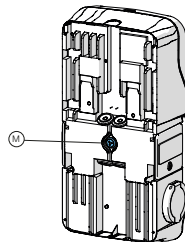

Fig. 3l
- For **Duo T / S**; shown in Figures 3l and 4l, the shielded network cable passes through a hole in the cable entry membrane (M).